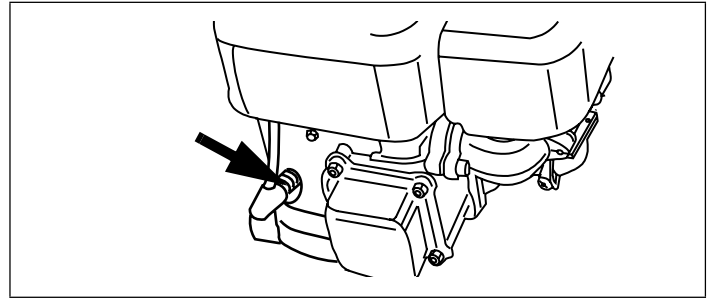

Figure 25. Typical Spark Plug Connection
1. Carefully disconnect spark plug wire and keep it away from spark plug. See "G. Avoid Accidental Starts" instructions on page 2. See Figures 25 and 26. Afterward, continue reading instructions below.
8. Carefully re-connect spark plug wire before attempting to start engine. See Figures 25 and 26.